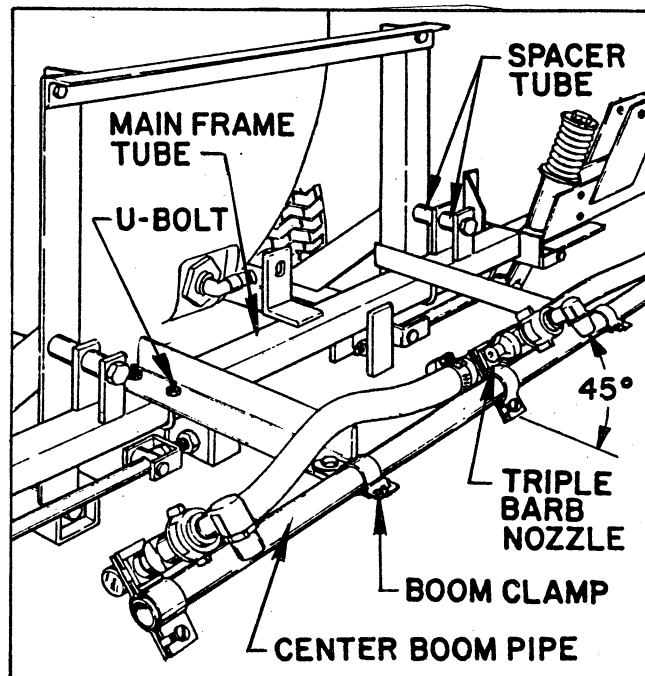

FIG. 7
■ Position the Spacer Tubes between the Boom Mount uprights and the lugs on the Main Frame Tube. Use two 1/2" x 4" hex hd cap screws and lock nuts to secure the Main Frame Tube to the uprights. See FIG. 7.
■ Position the two Center Boom Angles on the Main Frame Tube as shown in FIG. 7 and secure them to the Frame Tube with "U"-bolts and lock nuts.
■ Loosely attach the triple barb Nozzle Assembly in the approximate center of the Center Boom Pipe. For the most uniform spray coverage, position all Nozzle Assemblies at a 45° angle as shown in FIG. 7. Tighten clamp screw to secure the Nozzle to the Boom Pipe.